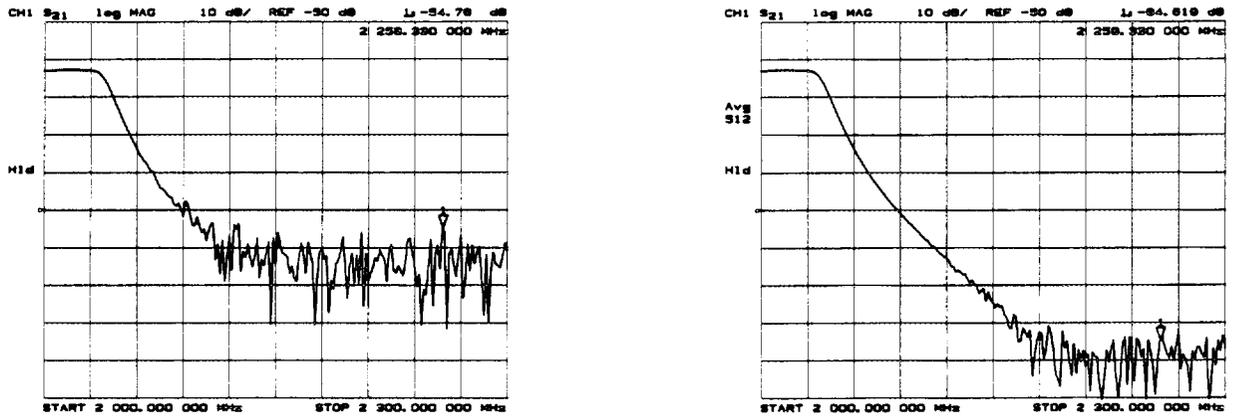

Figure 4-32. Effect of Averaging on a Trace
**Averaging** computes each data point based on an exponential average of consecutive sweeps weighted by a user-specified averaging factor. Each new sweep is averaged into the trace until the total number of sweeps is equal to the averaging factor, for a fully averaged trace. Each point on the trace is the vector sum of the current trace data and the data from the previous sweep. A high averaging factor gives the best signal-to-noise ratio, but slows the trace update time. Doubling the averaging factor reduces the noise by 3 dB. Averaging is used for ratioed measurements: if it is attempted for a single-input measurement (e.g. A or B), the message "CAUTION: AVERAGING INVALID ON NON-RATIO MEASURE" is displayed. Figure 4-32 illustrates the effect of averaging on a log magnitude format trace.